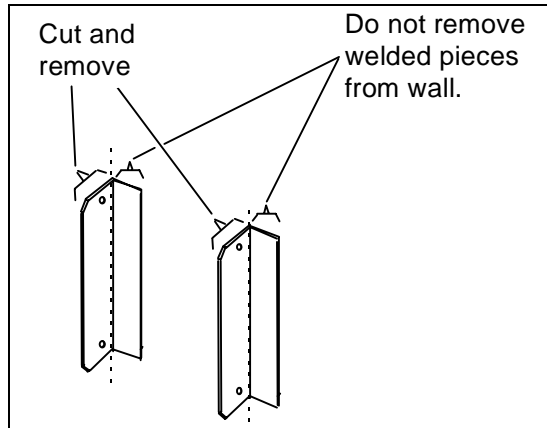

FIGURE 8: SUPPORT BRACKETS
1. Cut brackets where shown in Figure 8. This is required to permit installation of new re-enforcement assembly. To prevent damages to the wall it is recommended to leave the welded halves on the wall.